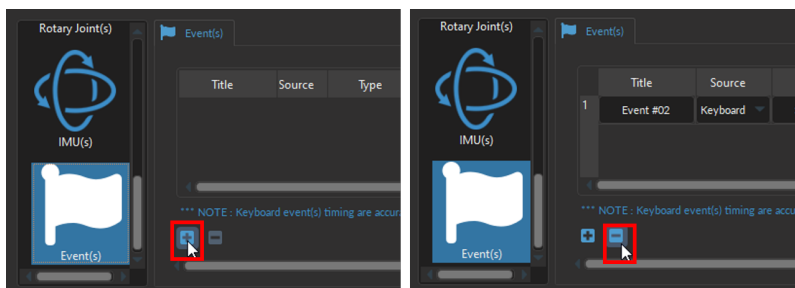

Figure 15.35: Adding and Removing Events
To add a new **Event**, select the + sign at the bottom of the window (Fig. 15.35, left). To remove an Event, use the - button (Fig. 15.35, right).
- **NOTE:** Selecting the + button (without clicking the *Add* button or the *Close* button of the *Channel Configuration* window) will **automatically** add the Keypress Event channel at the **bottom** of the Acquisition View window, below any pre-existing channels (Fig. 15.35).